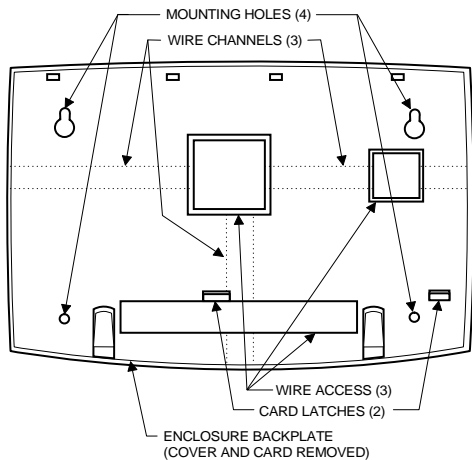

Figure 3. Plastic Case Mounting Holes
3. Place the module on the wall and mark the mounting holes locations (Figure 3).